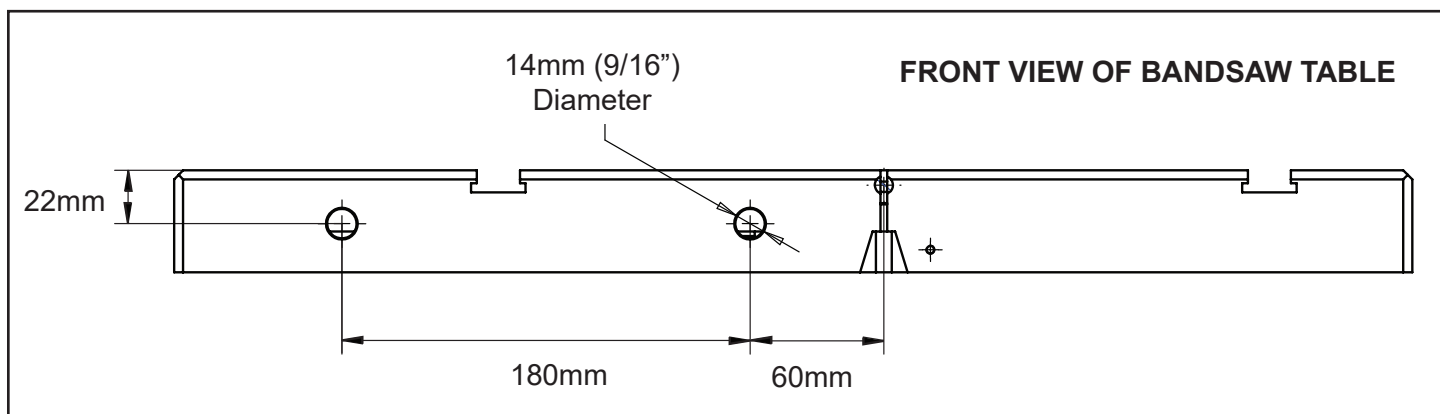

FIGURE 1
Mounting the new front rail onto the front skirt of the table requires that the two mounting holes be 14mm (9/16") or larger in diameter, and positioned as per the dimensions in Figure 1. This will position the front rail so that the '0' calibration on the rail aligns with the center of the slot in the table for the blade for accurate setting of the fence for ripping. It will also position the carrier assembly on the rail so that the fence rides properly above and along the table surface without binding.
1. If needed, enlarge or drill new holes in the table front skirt according to the dimensions in Figure1.